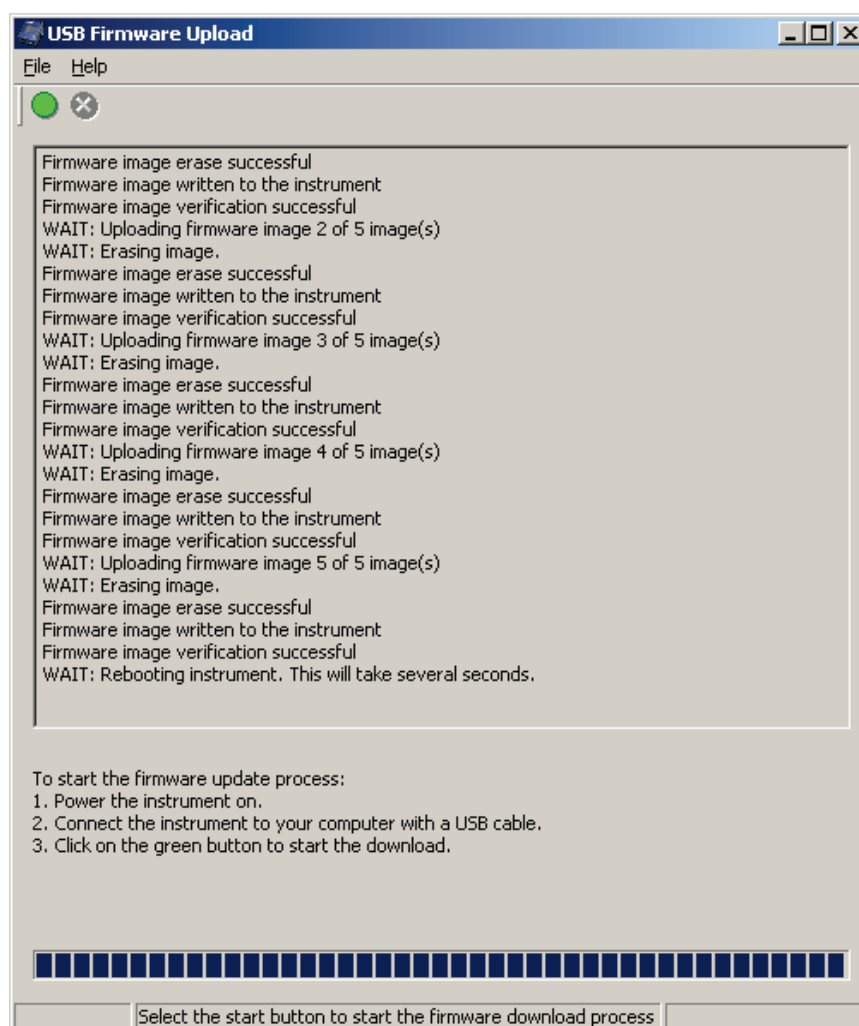

Figure 18
12. When the firmware upload process is complete, the success message is displayed (Figure 18).